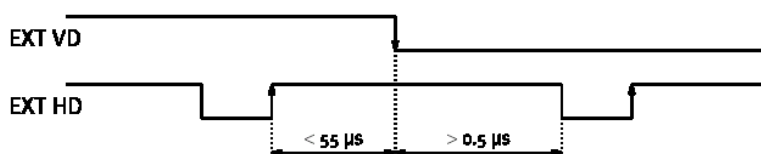

Fig. 16. Ext. HD and ext. VD phase conditions.
The time requirements to the relation between VD and HD are shown in fig. 16.
- See Fig. 16 for the phase relationship between ext. HD and ext. VD pulses